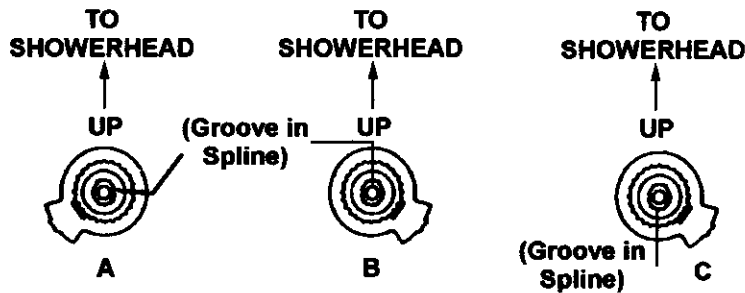

Figure 10b
2. Remove the outermost stop and reposition to the desired temperature setting (see Figure 10b).